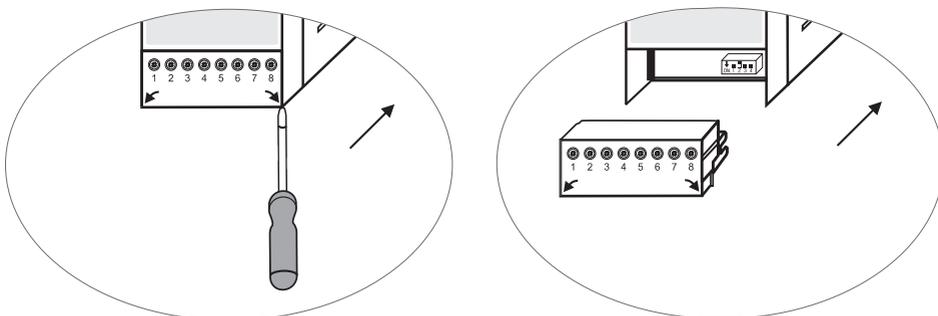

Fig. 8
- Remova as tiras de terminais superior e inferior (Fig. 8)